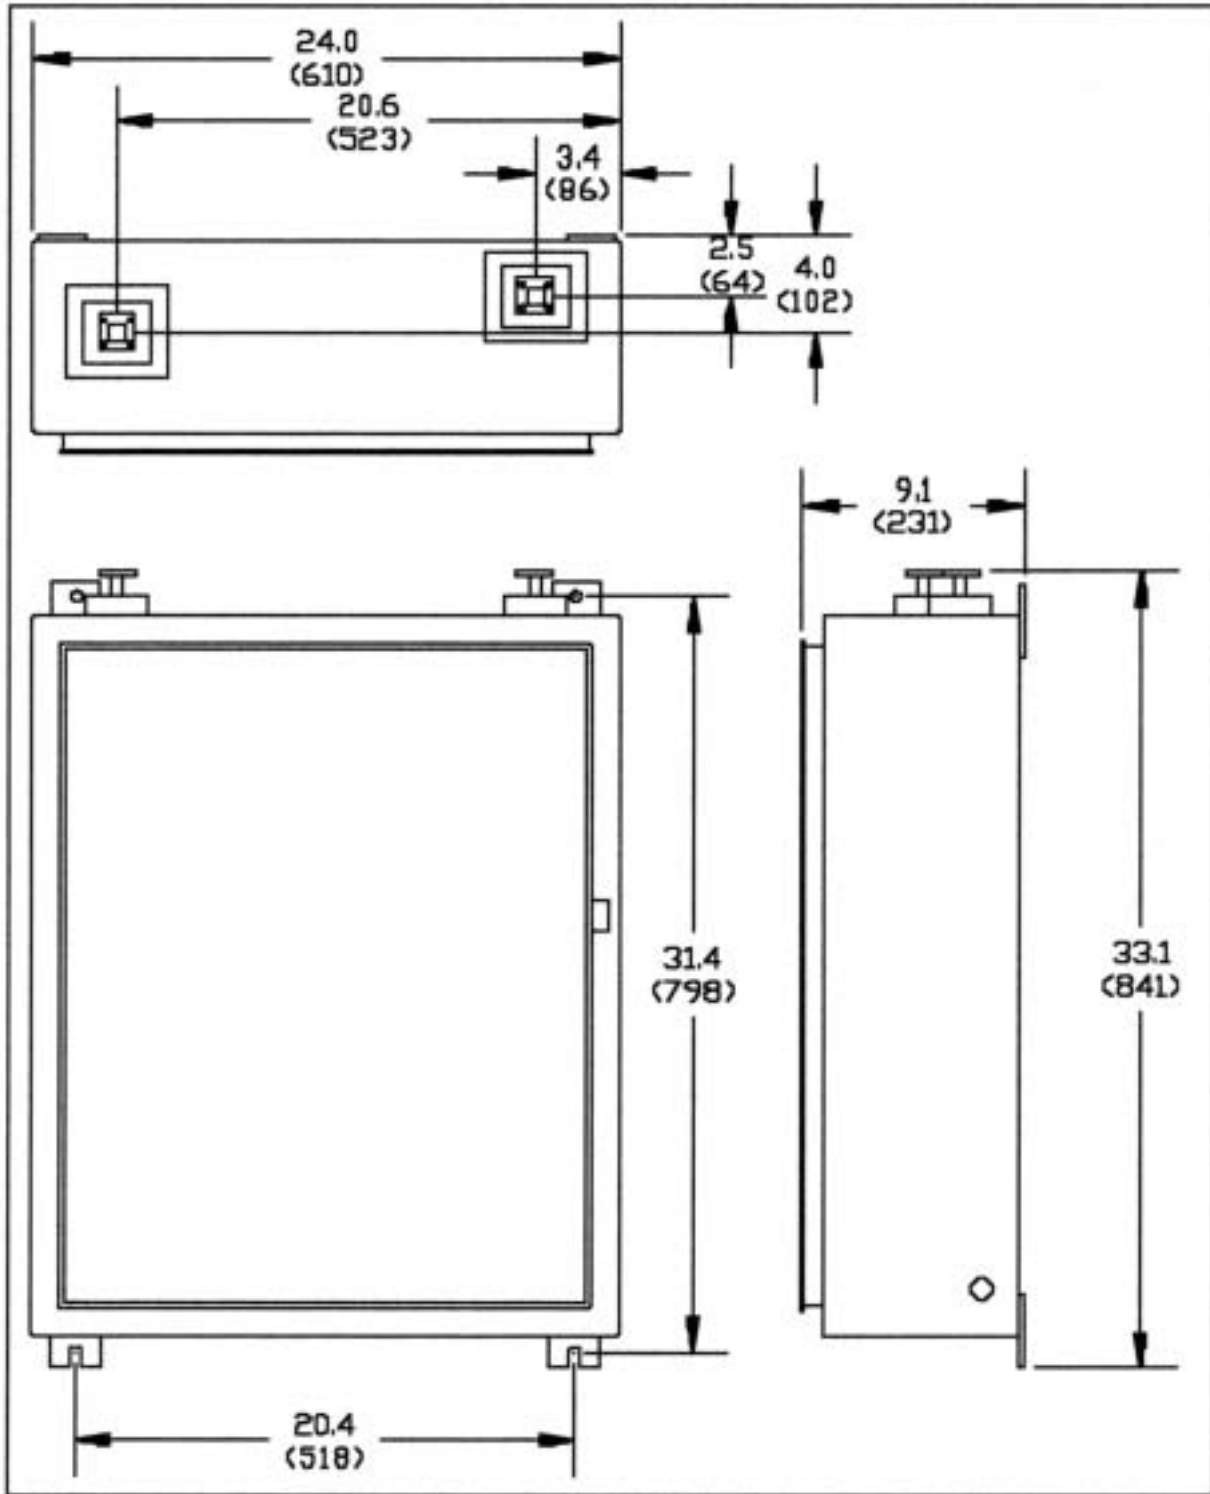

Figure 3.1 Cabinet Mounting Dimensions, RF-13000, -01 and -02 (shown in inches and mm)
- The RF-13000 assembly can be mounted on crossarms on a wood-pole structure, a steel tower, or on a wall. In extremely hot environments (e.g., desert), shading from direct sunshine may be required. The length of all power leads should be limited and the wire size adequate to minimize the voltage drop. The Repeater assembly, battery boxes, solar panels, and antennas should all be mounted before any wiring is done. See Figure 3.1 for mounting hole dimensions of the Repeater enclosures.